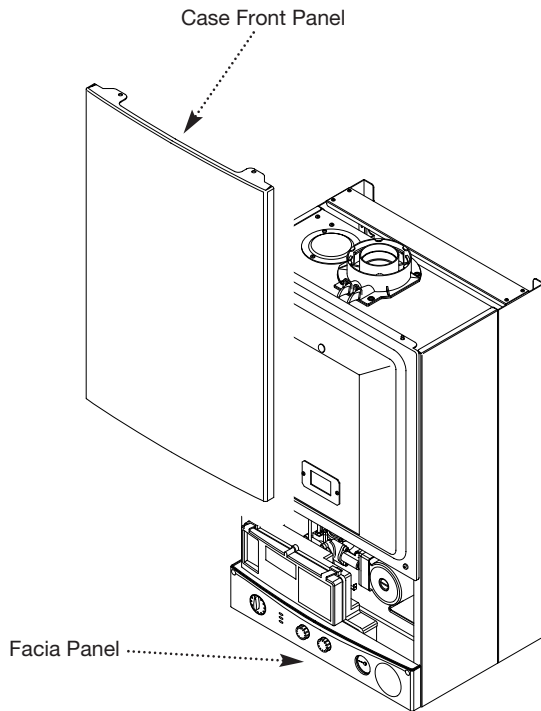

Fig. 40
1. Hinge the facia panel upwards and engage the securing screws. Refit the case front panel and tighten the screws (Fig. 40).